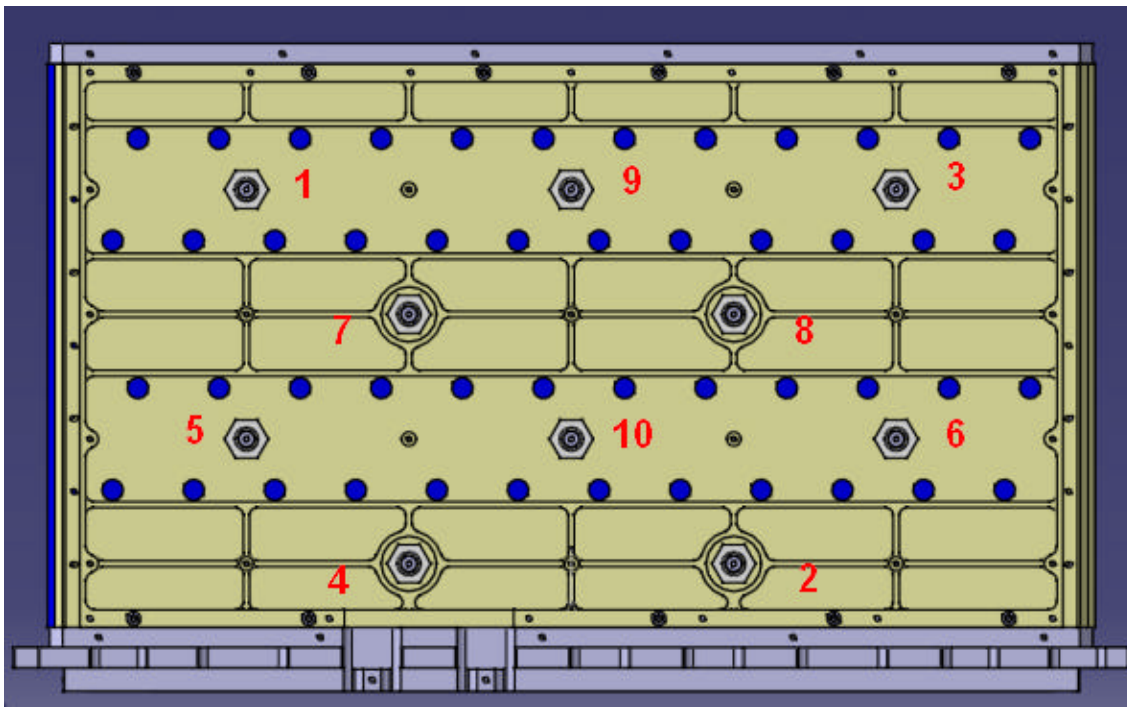

Figure 6.1-1: Torquing Sequence of the Close-Out Plate Nuts, X-Side
14. Use the close-out plate nuts to evenly draw the opposing close-out plates together until the plates mate with the inserts. Alternately tighten the nuts and screws on opposing sides to control the compression of the bumper frames using the torquing sequence shown in Figures 6.1-1 through 6.1-3. Tighten each fastener to 50% of its final torque specification.